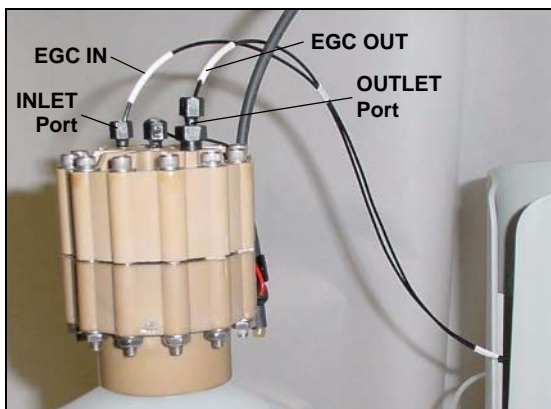

Figure 5-82. EluGen Cartridge Inlet and Outlet Port Connections
2. Connect the **EGC IN** line to the EluGen cartridge **INLET** port (see Figure 5-82).